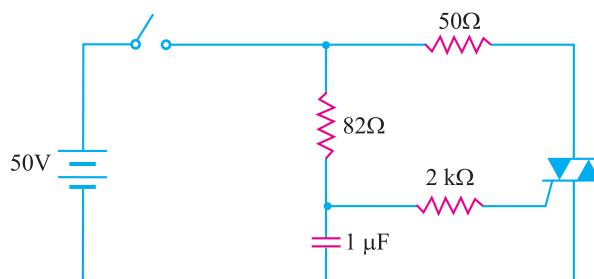

Fig. 21.16
**Example 21.4.** In Fig. 21.16, the switch is closed. If the triac has fired, what is the current through  $50\Omega$  resistor when (i) triac is ideal (ii) triac has a drop of 1V?